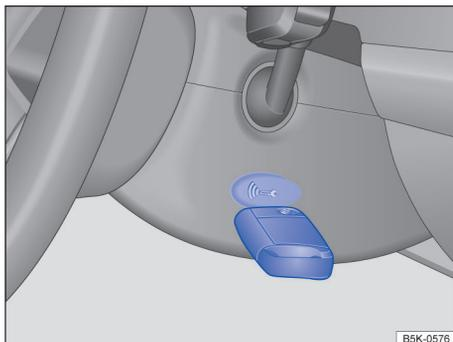

Fig. 98 Hold the remote control vehicle key to the right of the steering column: Emergency starting feature.
- Hold the remote control vehicle key to the right of the steering column trim immediately after pressing the starter button → fig. 98.